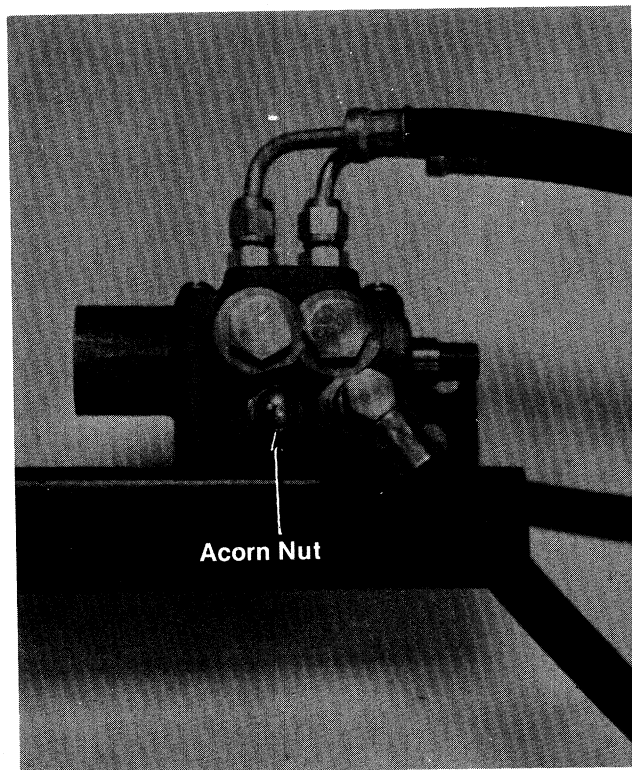

FIGURE 32.
1. Remove the acorn nut and washer. (See figures 32 and 33.)